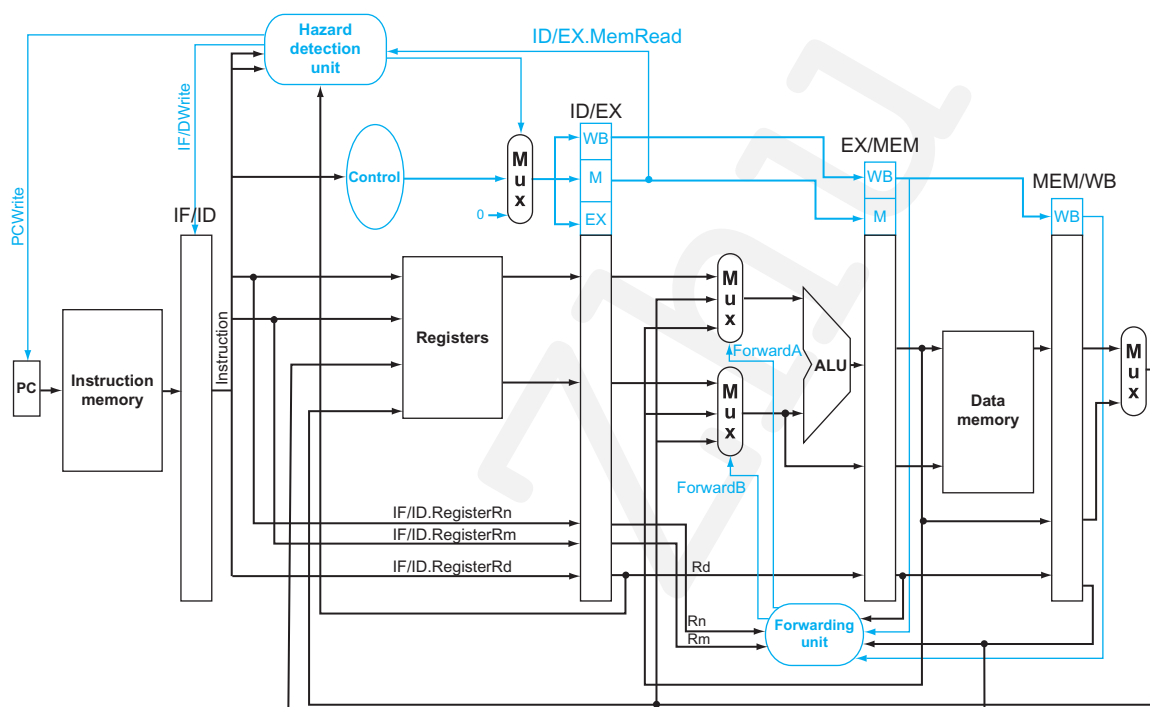

Figure 4.59 Pipelined control overview, showing the two multiplexers for forwarding, the hazard detection unit, and the forwarding unit.
4. If there is forwarding, for the first seven cycles during the execution of this code, specify which signals are asserted in each cycle by hazard detection and forwarding units in **Figure 4.59**.
5. If there is no forwarding, what new input and output signals do we need for the hazard detection unit in **Figure 4.59**? Using this instruction sequence as an example, explain why each signal is needed.